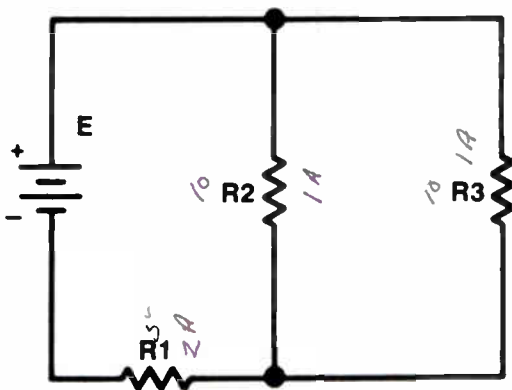
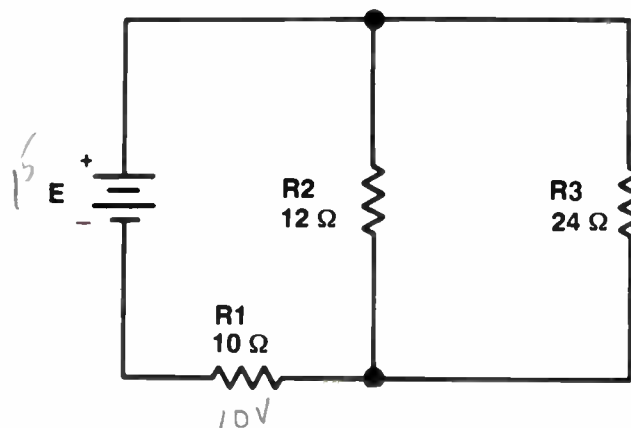

Figure 5. A series-parallel circuit.
Figure 6. A series-parallel circuit with resistances shown.
An example of a series-parallel circuit is shown in Fig.5. In this circuit, R2 and R3 are in parallel. Current flowing in the circuit splits into two smaller currents when it reaches the junction of R2 and R3. The current that flows through each resistor is proportional to the resistance of the branch. If the resistors are equal, half the total current flows through each. On the other hand, if one resistor is much larger than the other, more current flows through the smaller resistor. Also, since the two resistors are in parallel, the same voltage drop is present across each resistor.
Figure 6 shows a series-parallel circuit similar to the one in Fig.5. In this example, R1 is the series resistor, with a value of 10 ohms. R2 and R3 form the parallel resistor combination. R2 has a resistance of 12 ohms and R3 has a resistance of 24 ohms. What we want to find is the total resistance in the circuit, since it determines the current flow from the battery.
- 10 If, in a circuit like the one shown on page 8 in Fig.5, R1 equals 5 ohms, R2 equals 10 ohms, and R3 equals 10 ohms, what is the source voltage if the current through R2 is 1 ampere? *24V*